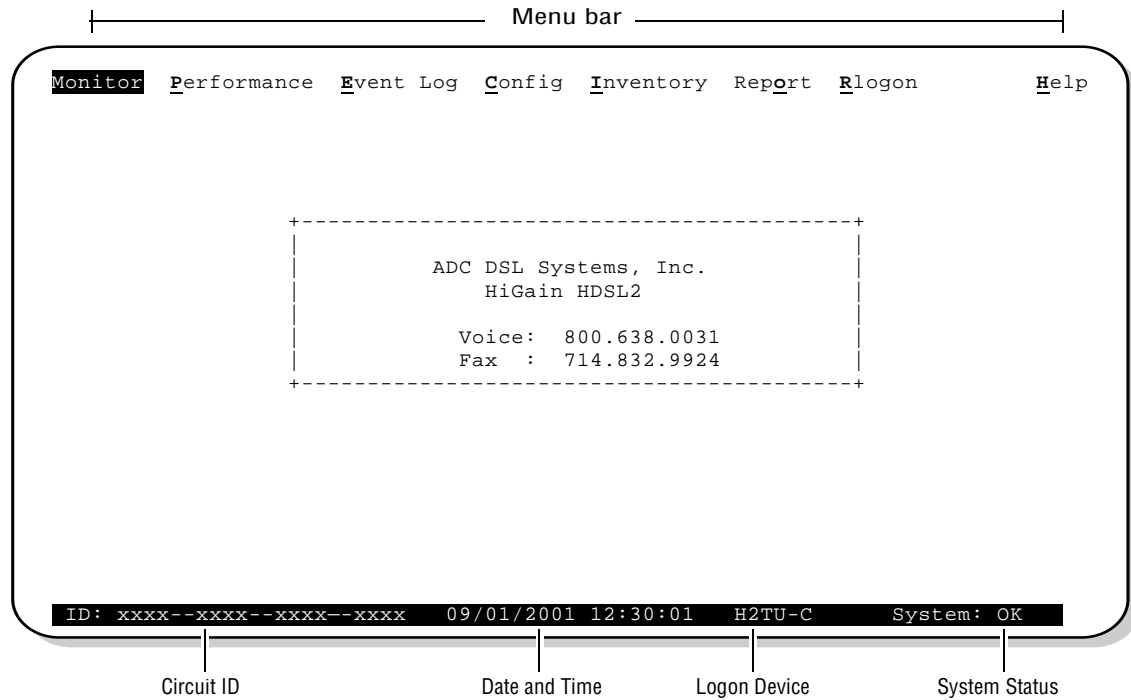

Figure 3. Logon Screen
- Use a maintenance terminal (ASCII terminal or a PC running terminal emulation software) connected to the H2TU-C craft port (or to an HMU craft port) to access the maintenance screens (see Figure 3 on page 12). This gives you full access to all H2TU-C status, history, inventory, and provisioning screens.
To select a menu from the logon screen (Figure 3 on page 12), do one of the following: